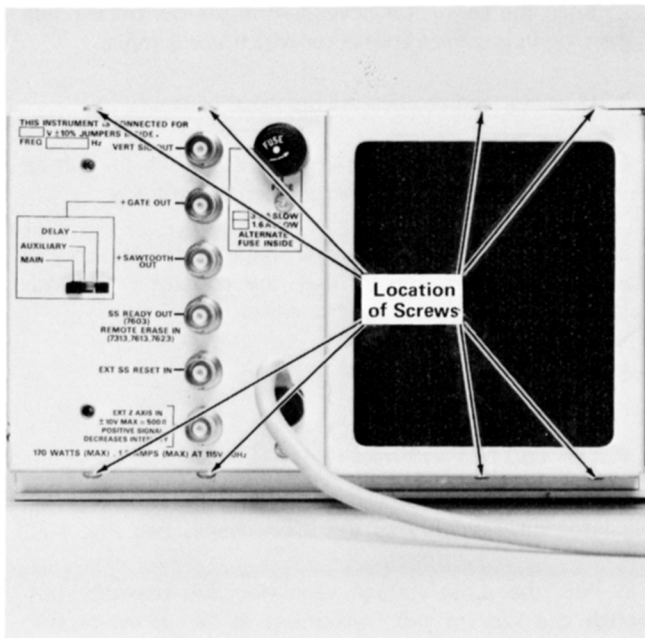

Fig. 4-8. Location of screws holding Signals Out rear panel.
1. Remove the eight screws holding the Signals-Out rear panel to the chassis. Pull rear panel out as far as cables will permit (see Fig. 4-8).